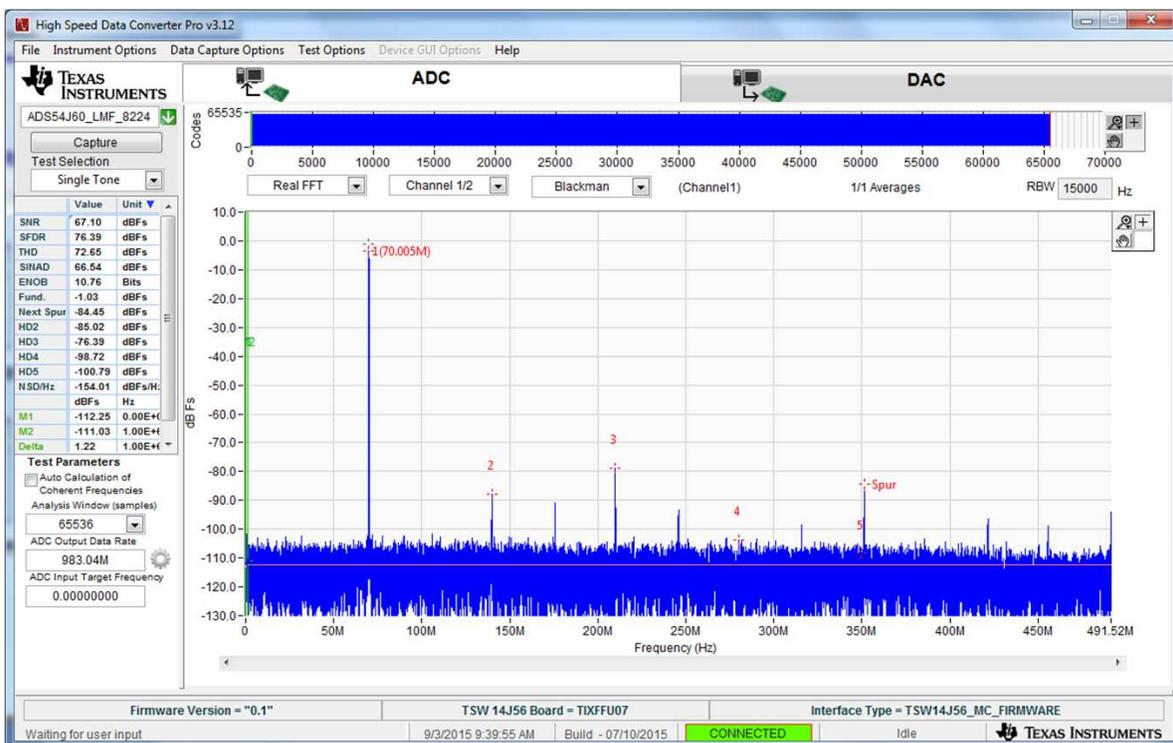

Figure 7. Channel 1 (LMH3401) Data Capture Results from Quick Start Procedure
- Click on Capture. The results from the captured data of Channel 1 (LMH3401) should look like Figure 7 and the performance should be similar to Table 1. If this result is not achieved, then see the Quick Start Troubleshooting section of this document. Make sure the fundamental power is less than -1 dBFS. Adjust the amplitude of the signal from the source, if needed.